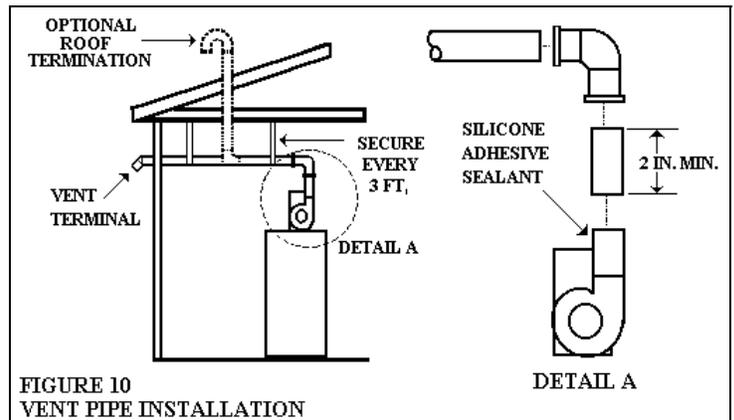

FIGURE 10
**IMPORTANT:** Fittings such as elbows and couplings must not be attached directly to the blower outlet. A short length of vent pipe (2 inches minimum) must be used to connect an elbow or coupling to the blower outlet as shown in Figure 10.